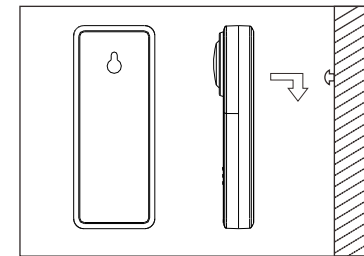

Fig. 2
1. Using the template provided, mark the screw hole location and drill a 0.4 inch hole. Tap the provided screw anchors into place. Fig. 2
2. Peel the protection sheets of the double-sided tape and stick to the bottom back side of the unit. Slide the alarm over and on to the screw, Fig 2, then press bottom of the unit to secure taped unit to the wall.